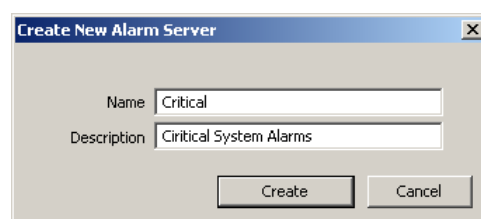

Figure 104: Create New Alarm Server dialog box.
3. In the **Create New Alarm Server** dialog box (as shown in Figure 104) enter **Name** and **Description** of the alarm server.